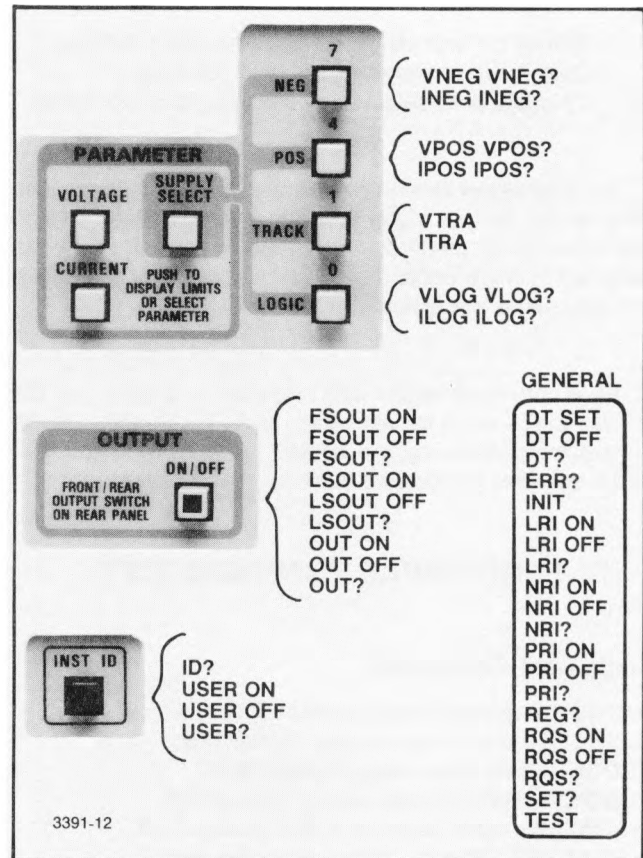

Fig. 3-1. Bus commands and relationships to the front panel.
- A front panel illustration — showing command relationships to front panel operation. See Fig. 3-1.